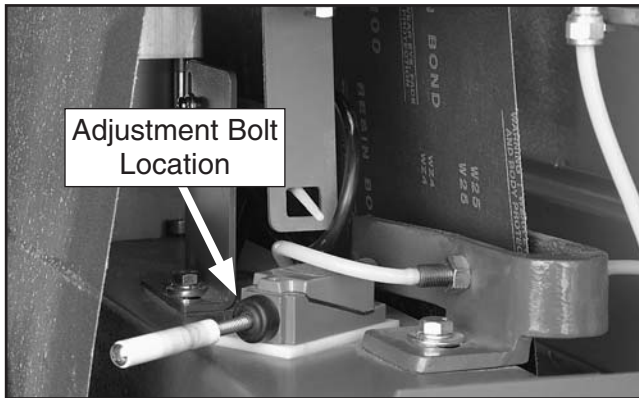

Figure 79. Tracking limit switch adjustment bolt (right side shown).
Sanding belt tracking limit switches are placed on both sides of the belt to act as emergency machine stops if the belt travels too far to one side or the other during oscillation (see **Figure 79**).
5. Loosen the adjustment bolt shown in **Figure 79**, and move the switch so the belt and the ceramic rod are approximately 1/2" apart.